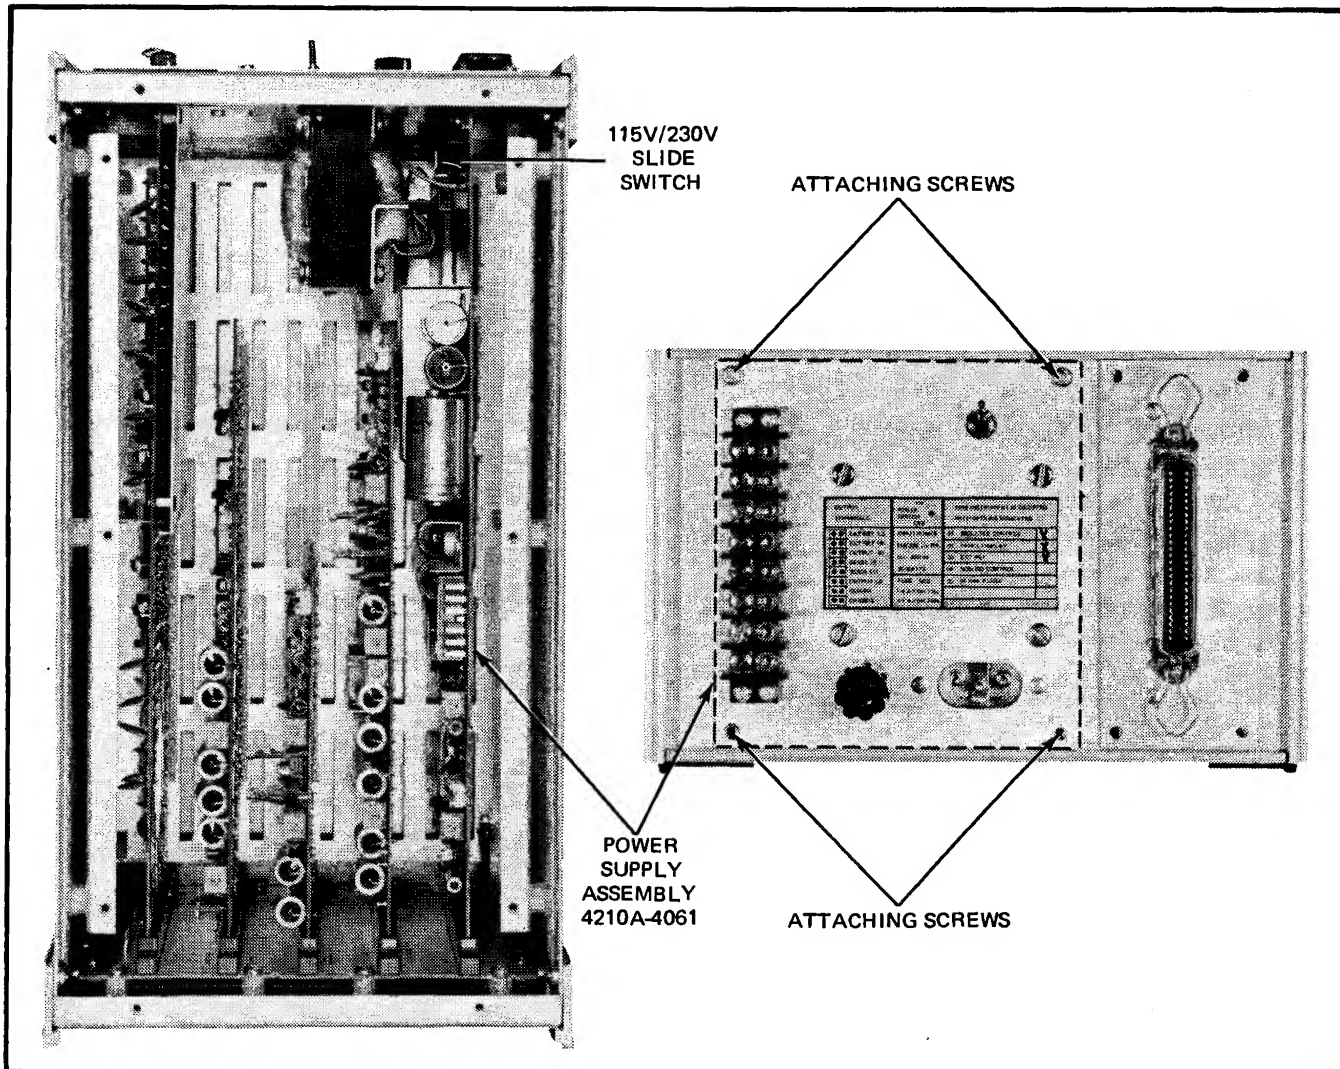

Figure 2-1. 115/230 VAC POWER CONVERSION
- c. Remove the four screws shown in Figure 2-1 from the rear panel.
- d. Pull the Power Supply Assembly shown in Figure 2-1 out from the rear panel until the 115/230 slide switch is accessible.